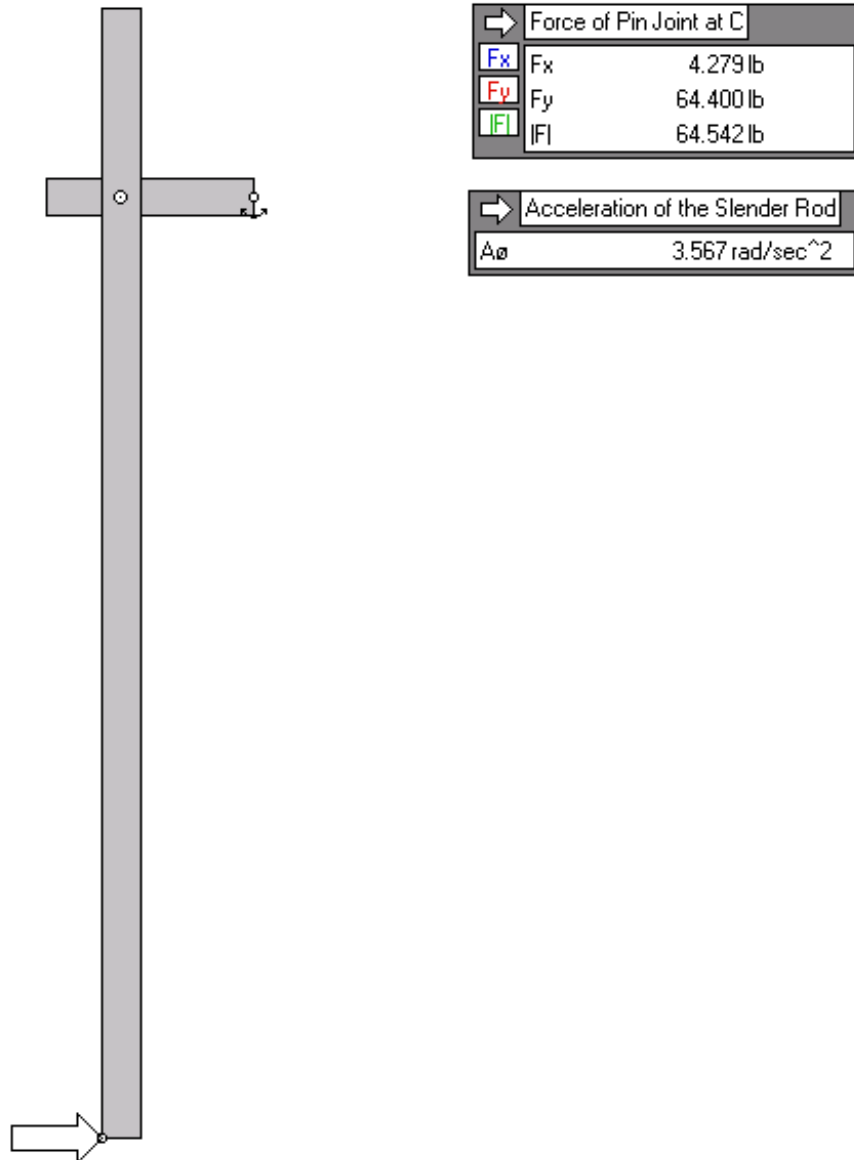

Figure 8
12. Now, the model is ready for simulation. Start the simulation to get the output similar to Figure 8.